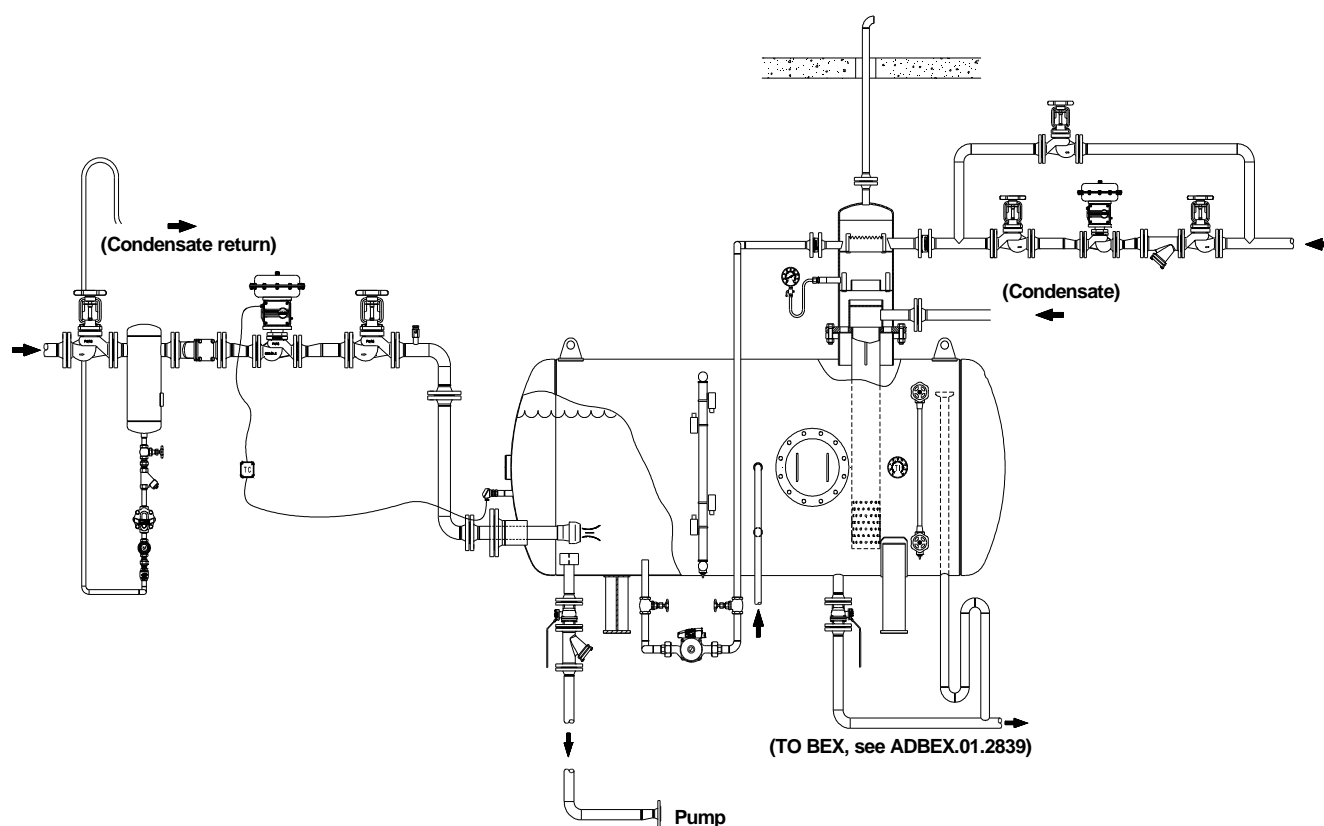

Fig. 1 – Typical installation: Semi-deaerator system with cold make up water
- If malfunction of any other equipment or system operation failure may result in a dangerous overpressure, over temperature or even vacuum condition, a safety device must be included in the system to prevent such situations. We recommend its installation as mentioned on fig.1 or 2.